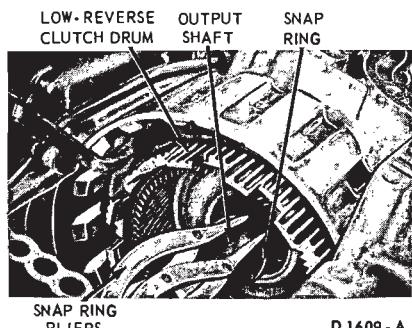

FIG. 28—Removing or Installing Reverse Ring Gear Hub Retaining Ring
13. Remove the snap ring (Fig. 28) that secures the reverse ring gear and hub on the output shaft. Slide the ring gear and hub off the shaft.